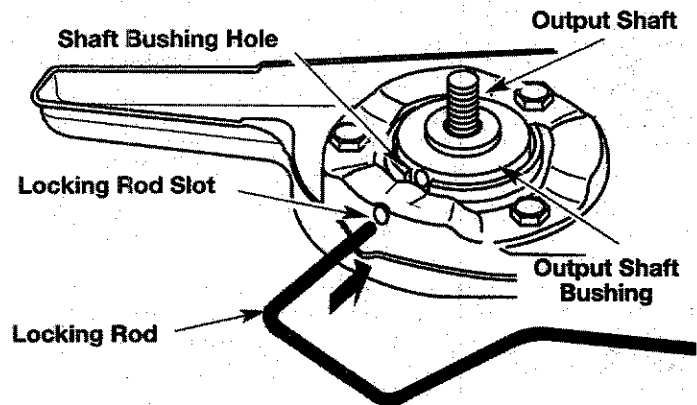

Fig. 8
1. Align the shaft bushing hole with the locking rod slot and insert the locking rod into the shaft bushing hole (Fig. 8).
- Align the shaft bushing hole with the locking rod slot and insert the locking rod into the bushing hole (Fig. 8).